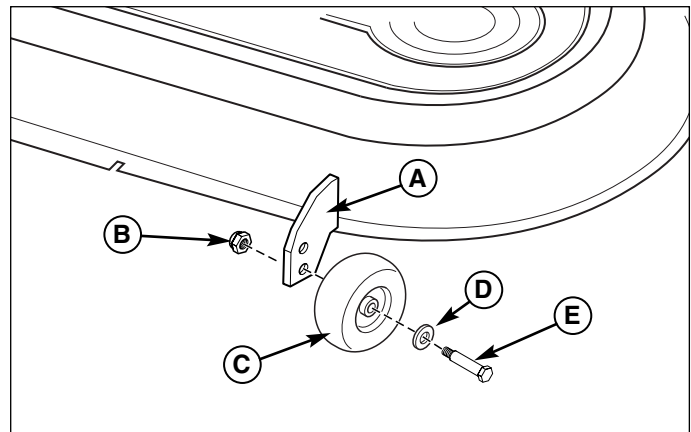

Figure 17. Fixed Bracket Gauge Wheel Adjustment
1. Remove the locknut (B, Figure 17), gauge wheel (C), washer (D), and shoulder bolt (E). Change position of gauge wheel to desired height.
2. Insert shoulder bolt (E) through washers (D) gauge wheel (C), and gauge wheel bracket (A). Secure with locknut (B). Repeat steps 1 & 2 for all gauge wheels.